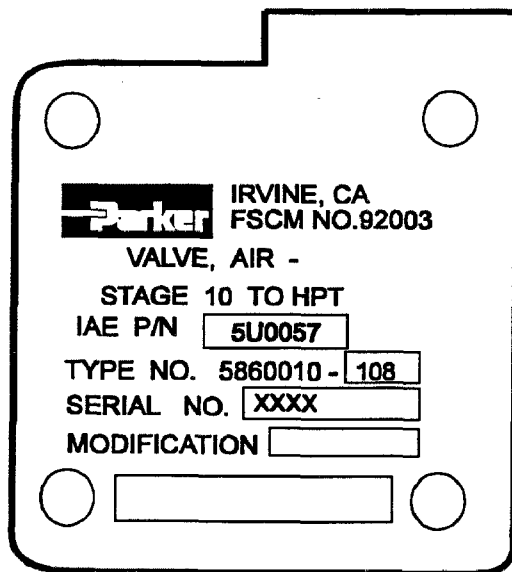

Figure 1
- (1) Reidentify the Valve by using a 1/16 inch (1,59 mm) metal stamp in appropriate areas of the new nameplate as shown in Figure 1. The new IAE Part Number is 5U0057. The new Parker Part Number is 5860010-108. The serial number of the Valve remains the same for the -103 and -106 configurations.
- (2) Remove nameplate cover (5) in accordance with the DISASSEMBLY section of CMM, 75-23-51.
- (3) Install new nameplate cover (5) in accordance with the ASSEMBLY section of CMM, 75-23-51.